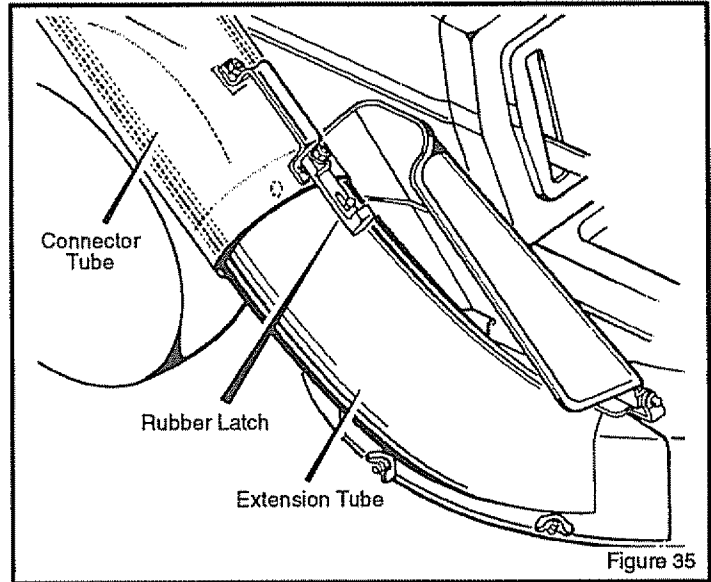

Figure 35
2. Move the shift lever to the neutral (N) position.
5. Disconnect the **rubber latch** from the **extension tube** (Figure 35).